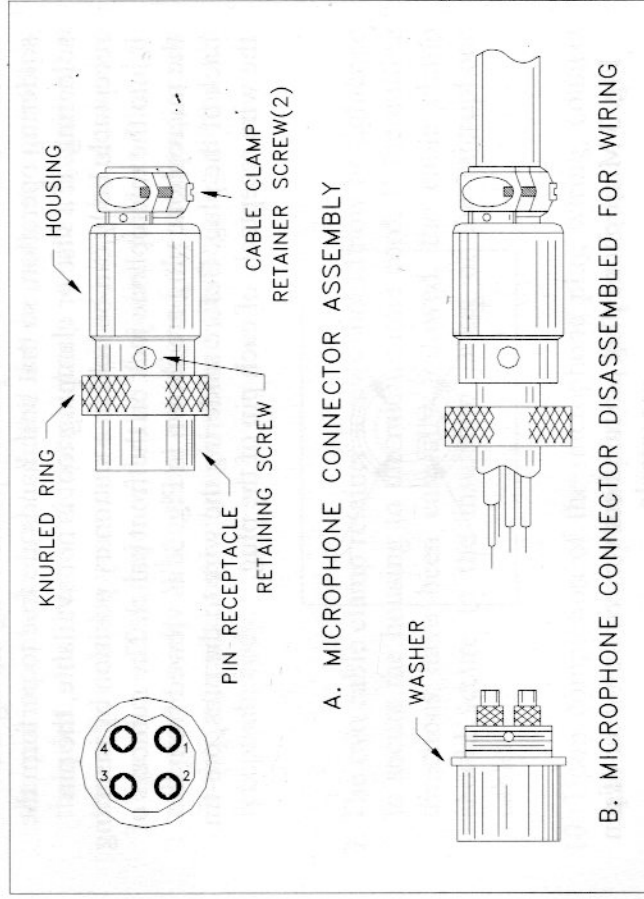

Fig. 2 Microphone plug wiring
4. Feed the microphone cable through the housing, knurled ring and washer as shown Figure 2.
6. Be sure that the housing and the knurled ring of Figure 2 are pushed back onto the microphone cable before starting to solder. If the washer is not captive to the pin receptacle body,